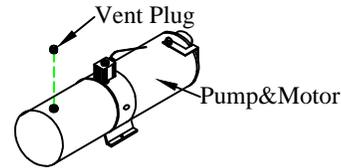

Figure 14: Vent plug.
2. **Unscrew** the solid plastic plug from the pump reservoir and **Install** the vent plug provided (Figure 14).